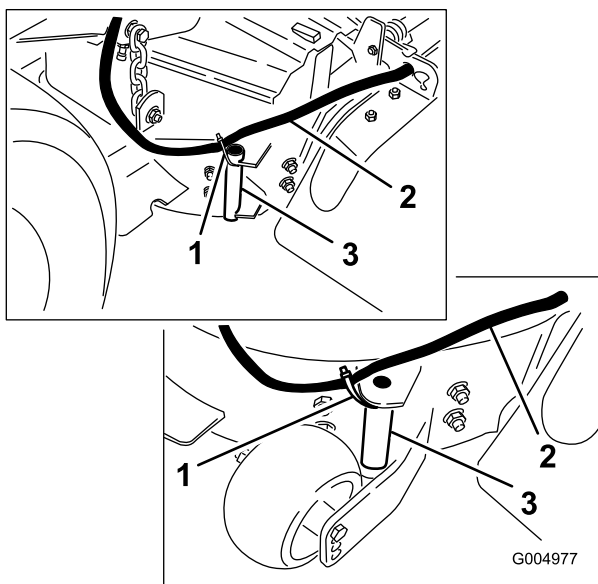

Figure 6
3. For mower decks with a pivot tube, secure the cables with a plastic cable tie (Figure 6).